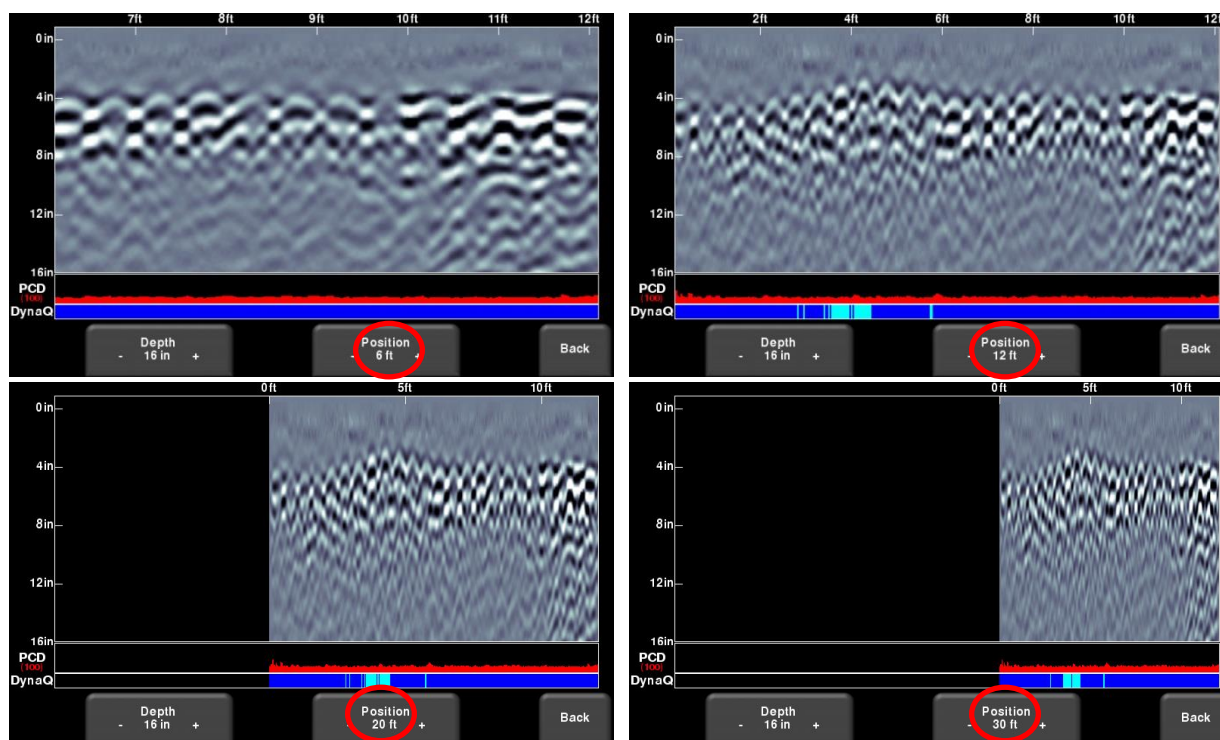

Figure 6-11: Varying position, or horizontal scaling
- Position** - Pressing + and - under the **Position** button allows you to change the length of data display on a single screen. This is also known as horizontal scaling. The pre-set values range from 6' to 30' (2m to 10m). One reason for setting this value larger would be to fit more data on the screen and look for consistency among hyperbolas that were crossed. Figure 6-11 shows the effect of varying the position value.